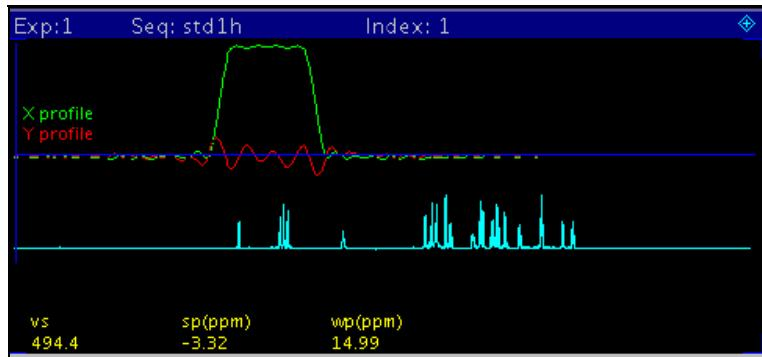

Figure 91 Shaped Pulse Simulations Reference Spectrum
15. Request simulations, see Figure 91, as follows: